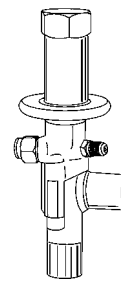

Figure 4: Balance port CPHE adjustable field-serviceable hot gas bypass regulator.
2. Direct acting balanced port valves (figure 4). Any of these regulators are available with either an adjustable setting, or a fixed, non adjustable setting.